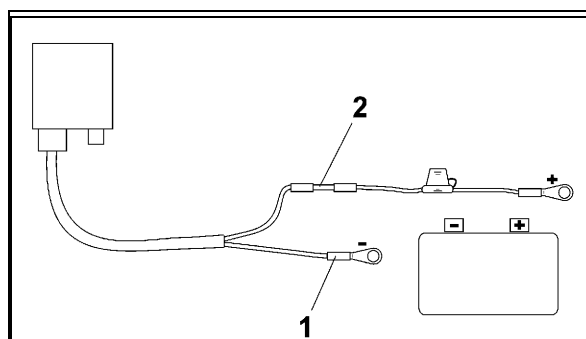

Fig. 4
- Insert the blue cable (earth cable) into the loose ring tongue (Fig. 4/1).
- Insert the brown cable (+ 12 Volt) into a free butt joint (Fig. 4/2).
- Shrink the casing over the butt joint (Fig. 4/2) by using a heat source (lighter or hair dryer) until the adhesive escapes.